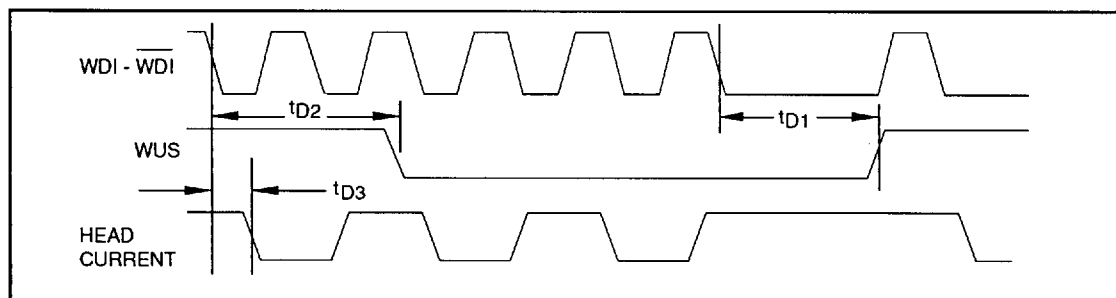

Figure 1: Write Mode Timing Diagram
**SWITCHING CHARACTERISTICS** Recommended operating conditions apply unless otherwise specified;  $I_W = 20\text{mA}$ ,  $f_{\text{DATA}} = 5\text{MHz}$ ,  $L_H = 1\mu\text{H}$ ,  $R_H = 30\Omega$ ,  $C_L$  (RDX, RDY)  $\leq 20\text{pF}$  (see Figure 1).